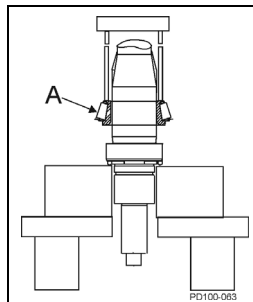

Figure 47 - Press Lower Cone and Roller Assembly onto Shaft
3. Lift lower cone and roller assembly (Figure 47, item A) out of bearing stack and place on shaft with radius down. Press onto shaft until seated against shaft shoulder. **Press only on inner cone.**